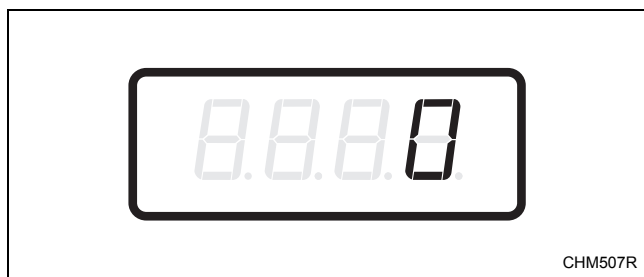

Figure 5
4. When “dEn2” appears in the display, press the START (enter) keypad. There are five digits in the Coin #2 Value. The fifth digit will appear in the display and will flash one second on and one second off. Refer to *Figure 5*.